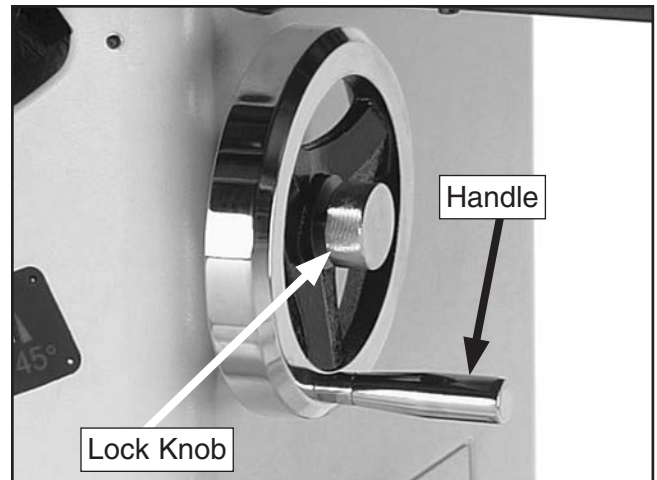

Figure 12. Handwheel installed.
3. Thread the handwheel lock knob into the center of the handwheel and tighten, then install the handle into the handwheel using a 14mm wrench (see **Figure 12**).